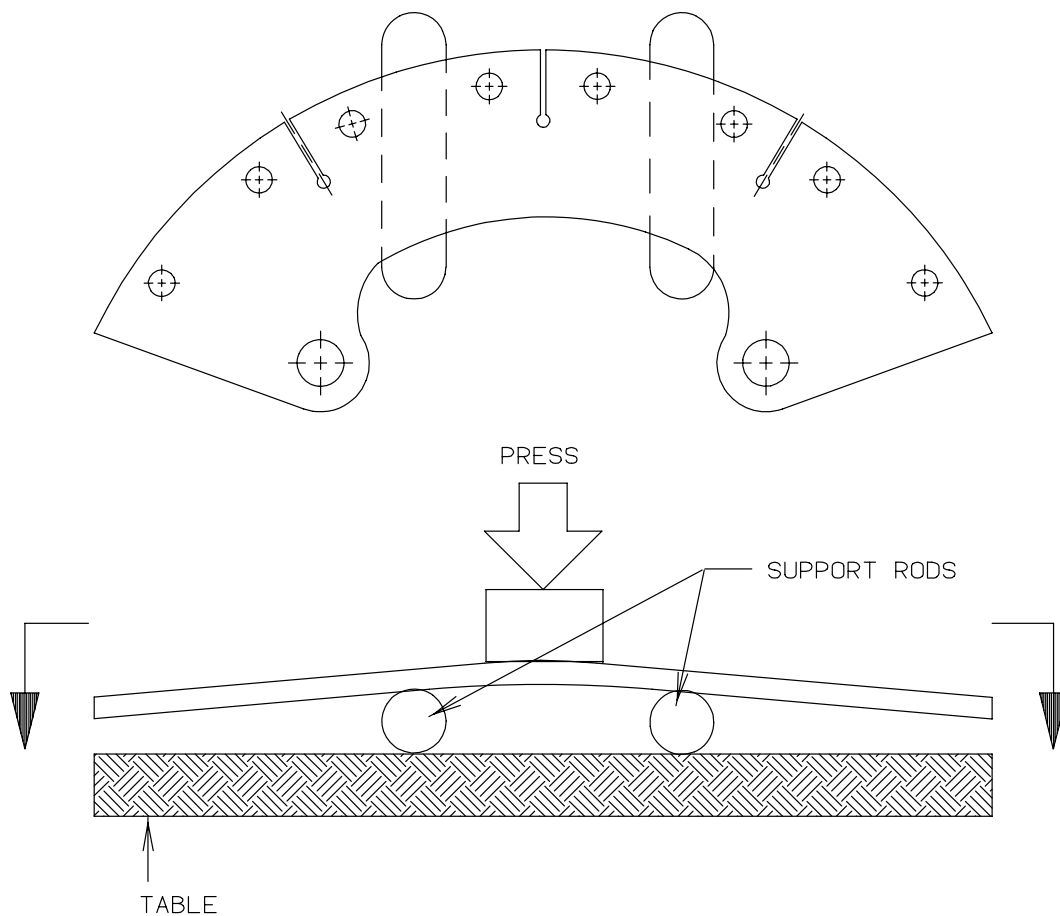

Figure 201 - Pressure Plate Straightening
- 4 Inspect pressure plate and back plates for excessive warping. Straighten pressure plate to less than 0.010 inch (0.254 mm) flatness, as shown in Figure 201.
- 3 Inspect pressure plate and back plate for excessive corrosion, visible damage, or excessive warping. Pressure plate should not be used if warped in excess of 0.010 inch (0.254 mm) flatness, by using draw flattening or straightening techniques. Ref. Figure 201. Excessive warping can result in brake drag, especially when new disc and linings are installed.